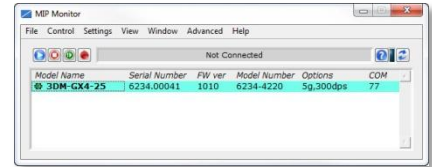

Figure 2: Device pane
2. The software will automatically search for the 3DM-GX4-15™ and display it in the Device pane. The Model Name, Serial Number, Firmware Version, Model Number, Options and COM port will be displayed as shown in Figure 2.